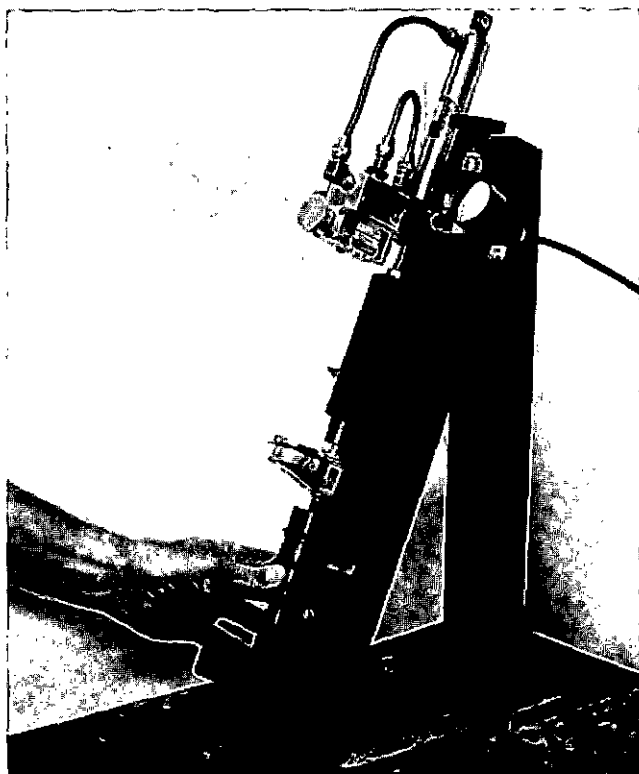

Fig. 4-10, (F60302). Rotate the injector adapter and observe the reading
5. Rotate the injector adapter and observe the reading, Fig. 4-10.